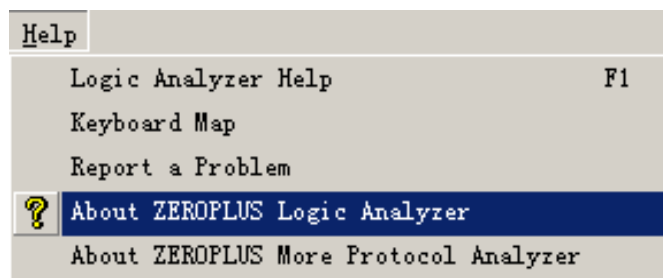

Fig. 6-3 – About ZEROPLUS Logic Analyzer
- A: Click **Help** from the menu (See Fig 6-3),
and then select **About ZEROPLUS Logic Analyzer**(See Figs 6-3 and 6-4).